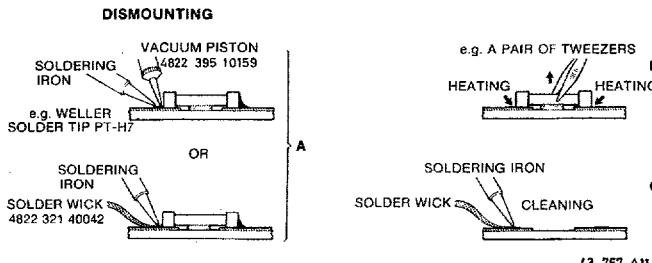

Fig. 2
- a. Heat the solder (for 2-3 seconds) at each terminal of the chip. Small components can, by means of litz wire and a limited horizontal force, be removed with the soldering iron. They can also be removed with a solder sucker (see Fig. 2) or